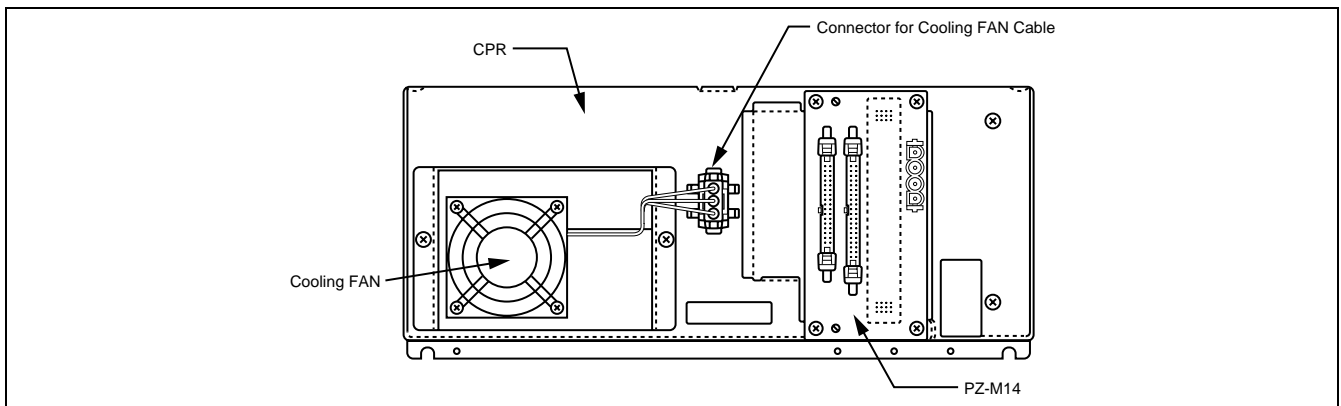
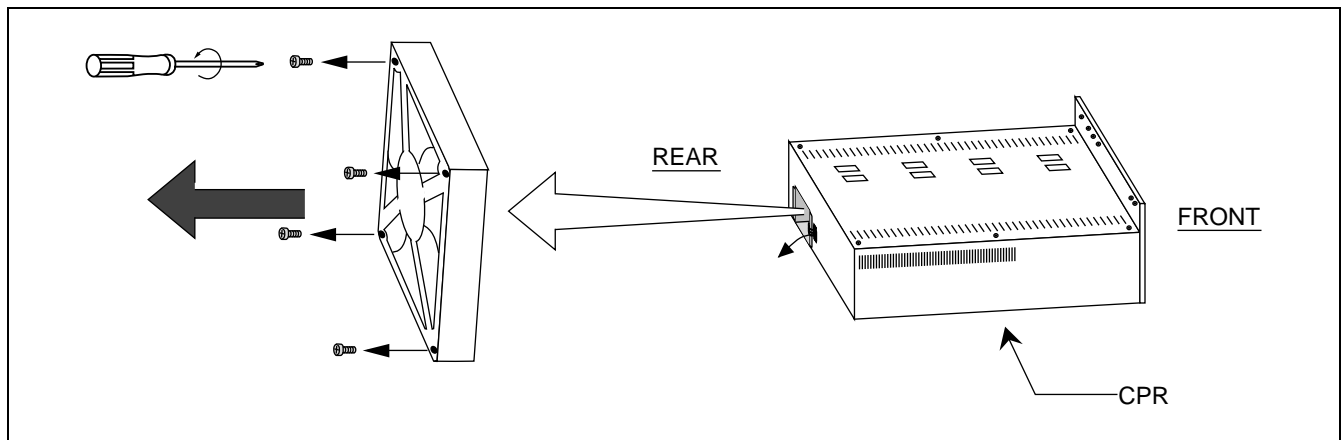

Figure 4-26 Rear View of CPR
Figure 4-27 How to Remove the Cooling FAN
Note: The cooling fan is located in the backbone of CPR and the cable connector lies in its right side. Refer to Figure 4-26.
STEP 8 Loosen the two screws fastening the box that contains the fan inside. Slightly lift the box and remove it from the CPR. Refer to Figure 4-26 and Figure 4-27.
STEP 9 Take off the four screws and remove the cooling fan from the CPR. Refer to Figure 4-27.
STEP 10 Fasten the new cooling fan and CPR with screws. Then, connect the fan cable again to the connector. Refer to Figure 4-26 and Figure 4-27.